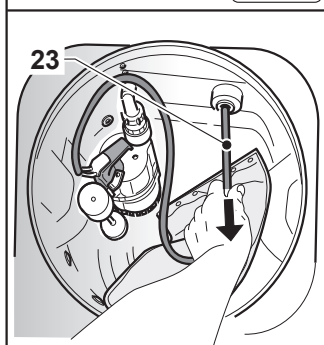

Fig. 15
- From the inside the tank, pull the cable (23 Fig. 15) until the evacuation pump power plug fits into its slot (24 Fig. 15).